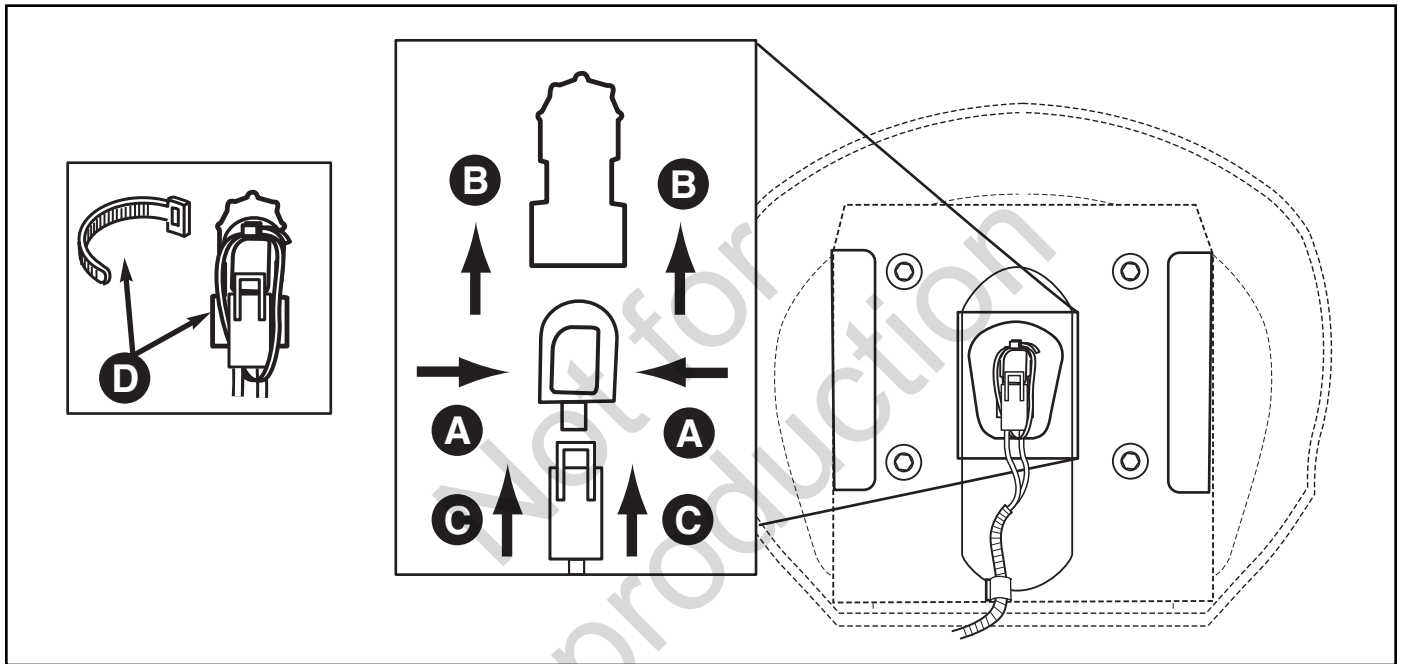

Figure 2. Installing the Seat Safety Switch
1. Squeeze the side clips of the safety switch (A, Figure 2), and insert the switch into the slot (B) in the seat bottom. Be sure to slide the switch fully forward.
2. Connect the harness terminal housing (C) to the seat switch.
3. Loop the wire tie (D) around both the switch body and the terminal housing.